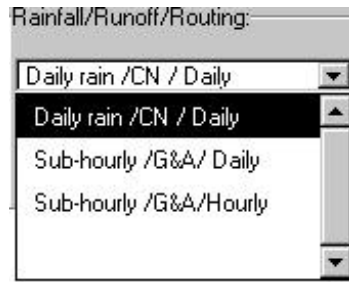

Figure 13.4
- b. Rainfall/Runoff/Routing. In this section, the user specifies the options to be used for precipitation time step, runoff calculation method, and routing time step. The user may choose between three options (Figure 13.4):